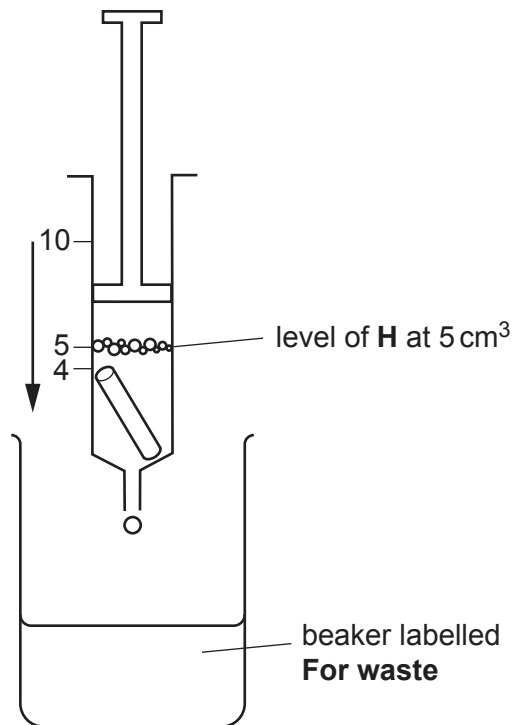

Fig. 1.4
7. Hold the syringe above the beaker labelled **For waste**. Push the plunger so that the level of **H** is at the 5 cm^3 mark, as shown in Fig. 1.4.